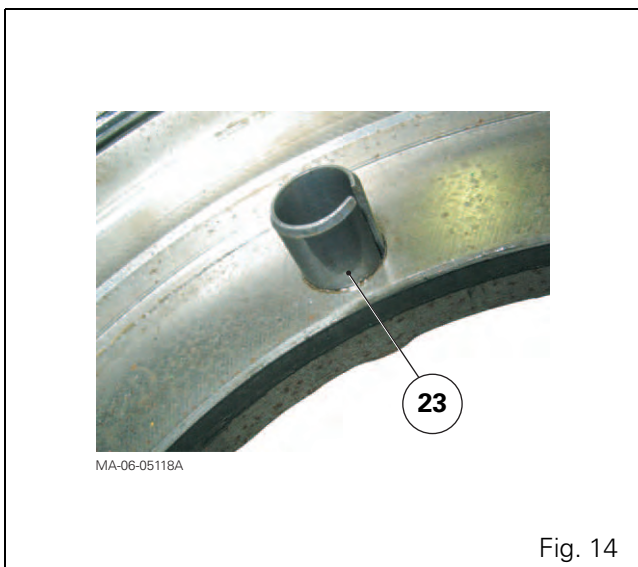

Fig. 14
46. Check for the locating pin (23) on the centre housing (Fig. 14).